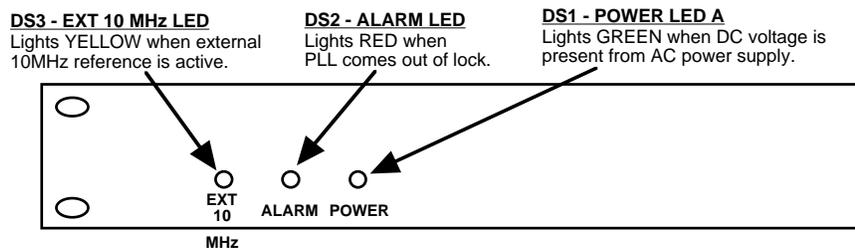

FIGURE 2.2 2116-34 Front Panel Controls and Indicators
- 4.) Be sure DS1 (green, DC Power) is on and DS2 (red, Alarm) is off (Figure 2.2).
- 6.) If EXT is selected or AUTO is selected and there is a 10MHz, 0 dBm signal at J2, check that DS3 (yellow, Ext 10 MHz) is on (Figure 2.2).